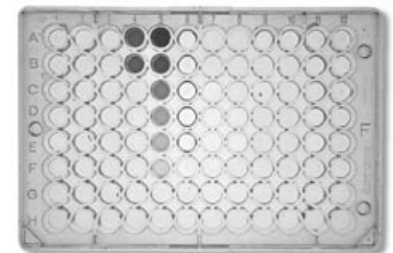

FIGURE 3 • 96-well BCA protein assay plate. The plate contains a dilution series of the BSA standard curve (A5 through F5) and two sample wells (A4 and A5).
- Seal the samples in the 96-well plate using the clear adhesive film and incubate the plate at 40°C in a water bath for 20 minutes (Figure 3).